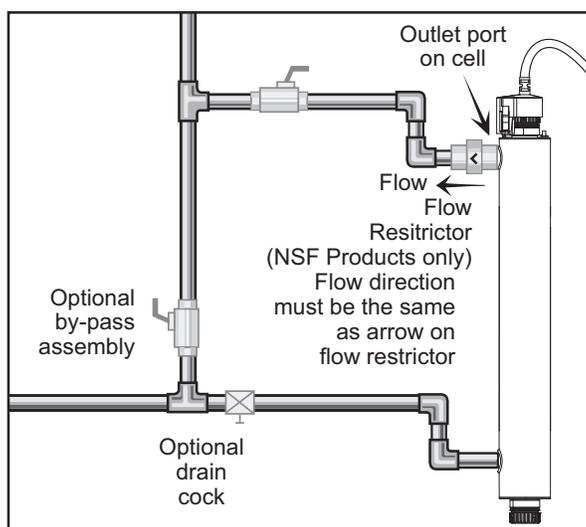

Figure 4 Flow Restrictor
3. Mount the system to the wall using the supplied clamps. Various connection methods can be used to connect the water source to the system, however union type connectors are recommended. The use of a flow restrictor device will help to maintain the manufacturer's rated flow. The flow restrictor should be installed on the outlet port and is designed to be installed in one direction only. Ensure that the flow of the water matches the flow direction as indicated on the flow restrictor. Refer to Figure 4.